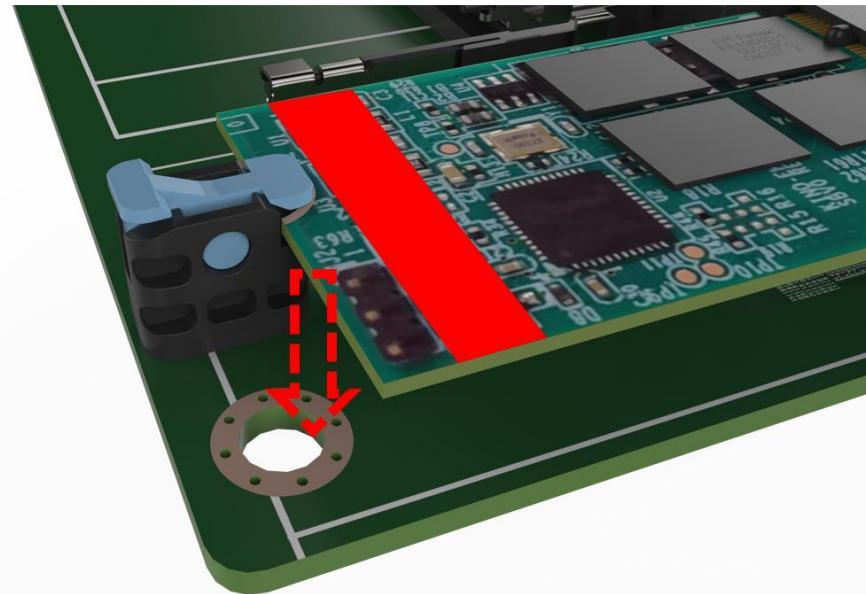

Figure 3-6: Securing the M.2 card
Step 5: Secure the M.2 card. Press down the M.2 card to fix it (**Figure 3-6**).